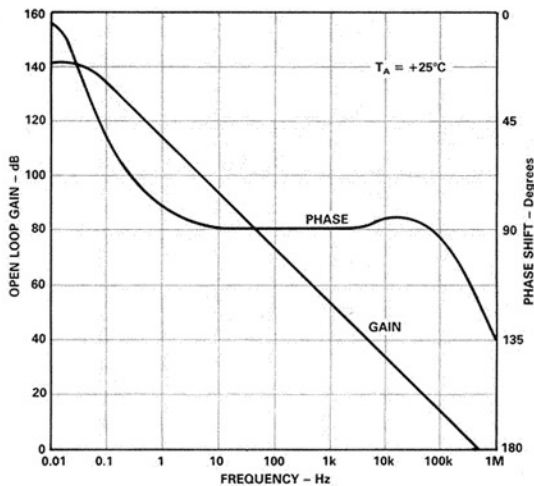

Figure 31. Open Loop Gain and Phase Response for the Uncommitted Input Op Amp of the AD208
**Compensating the Uncommitted Input Op Amp.** The open loop gain and phase versus frequency for the uncommitted input op amp is given in Figure 31. These curves can be used to determine the appropriate values for the feedback resistor and compensation capacitor in order to ensure frequency stability when reactive or nonlinear components are used in conjunction with the uncommitted input op amp.